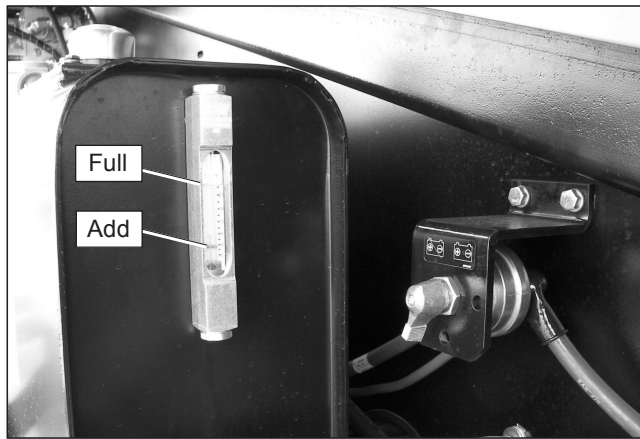

Figure 7.8 – Hydraulic Fluid Gauge
- Open the door on the right side of the chassis to access the hydraulic fluid level gauge (refer to Figure 7.8).